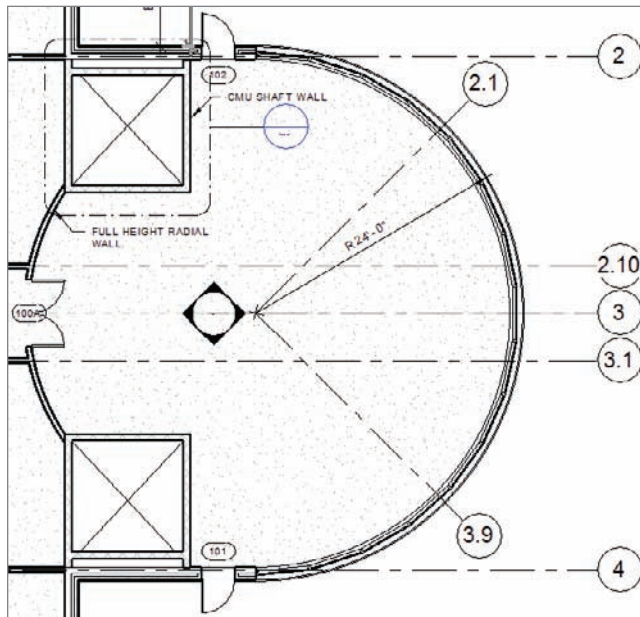

FIGURE 8.11 Adding the grids along the corridor walls
8. Repeat the process for the south corridor wall, adding an additional grid line numbered 3.1, as shown in Figure 8.11.